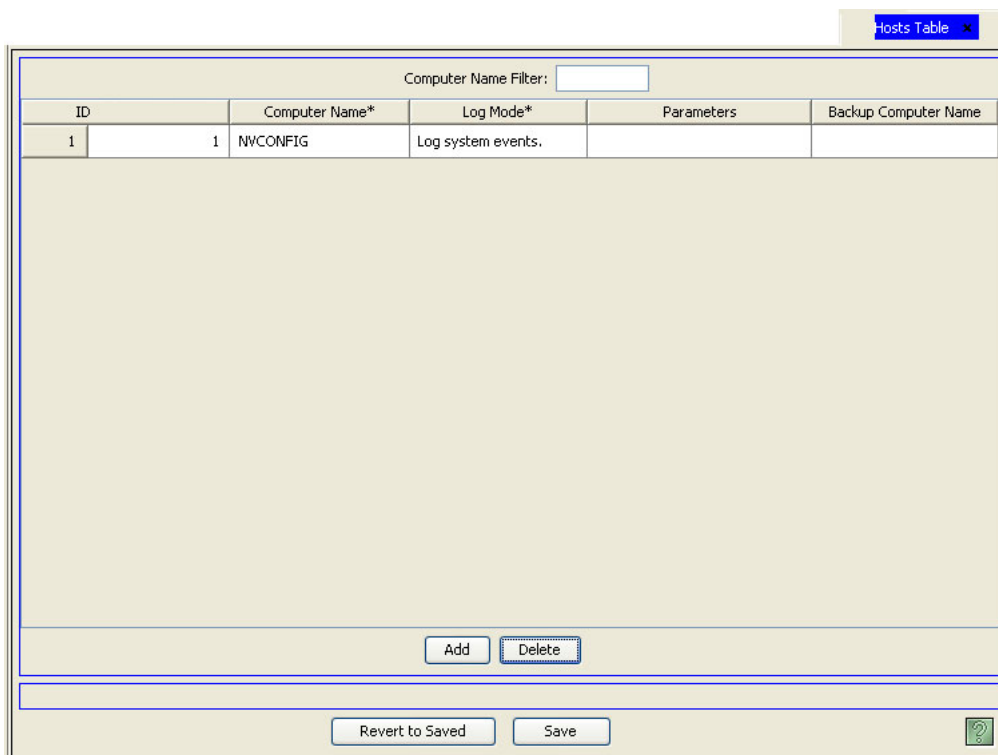

Figure 5-6. Hosts Table
- 2 From the Navigation area, select the 'Views' pane and then 'Hosts'. The 'Hosts' table appears, as shown in Figure 5-6.